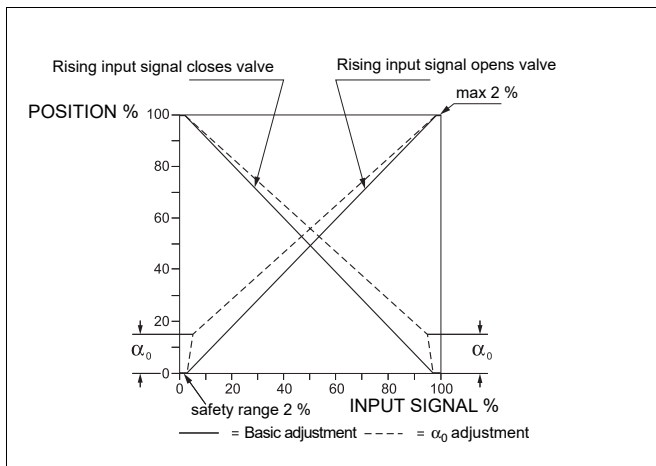

Fig. 8 Basic and α_0 adjustments
1. Switch on the supply pressure (S) and the input signal (IN).
2. Set the input signal at the closed limit of the valve so that it is 2 % i.e. 0.02 bar (0.2 psi) higher or lower than the limit value, e.g. $0.2 + 0.02 = 0.22$ bar (3 + 0.2 = 3.2 psi) or $1.0 - 0.02 = 0.98$ bar (15 - 0.2 = 14.8 psi). Loosen the screw (56). Turn the zero adjustment screw (67) so that the actuator comes slowly to the closed limit. Tighten the screw (56) always after the zero adjustment. The valve should open slightly with a 4 % change in signal, that is 0.03 bar (0.5 psi), e.g. $0.2 + 0.03 = 0.23$ bar (3 + 0.5 = 3.5 psi) or $1.0 - 0.03 = 0.97$ bar (15 - 0.5 = 14.5 psi). See Figures 8 and 9.